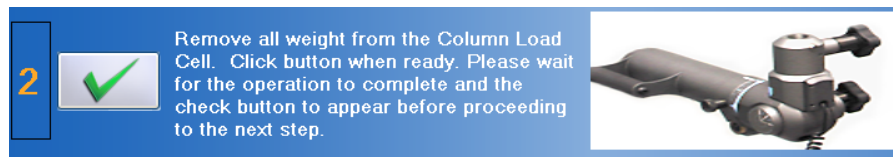

Figure 9-29. Column Load Cell - Set the Zero Point
Step 2. Click on  to set the zero point (Figure 9-29).